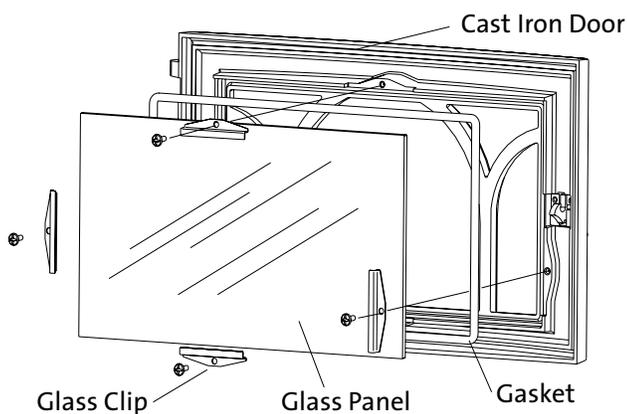
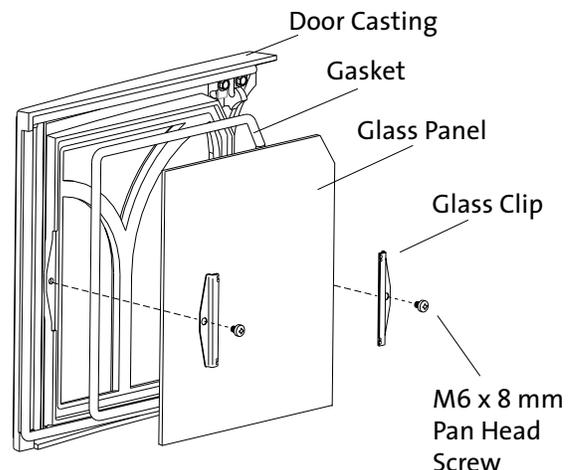

Figure 21a. Single Door Glass Assembly Parts.
Figure 21b. Double Door Glass Assembly Parts.
2. Carefully remove all of the glass clips from the inside of the door. See fig. 21a for Single Door / fig. 21b for Double Doors.